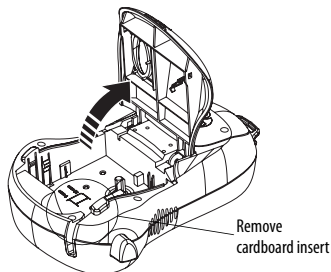

Figure 3
1. Lift the label cassette cover to open the label compartment. See Figure 3.
- ⚠ The first time you use the labelmaker, remove the protective cardboard insert from between the print head and pinch roller. See Figure 3.